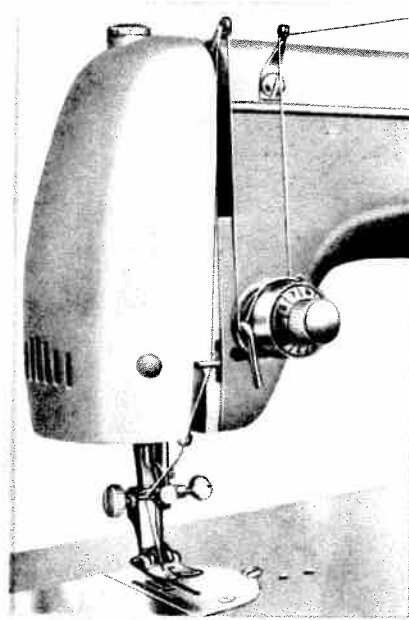

Fig. 4
3. Lead the thread through the arm thread-guide (Fig. 4).